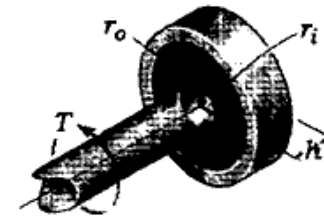

Fig. 3
5. A cylindrical spring consists of a rubber annulus bonded to a rigid ring and shaft. If the ring is held fixed and a torque  $T$  is applied to the shaft, derive the maximum shear stress in the rubber shown in Fig. 3. 14